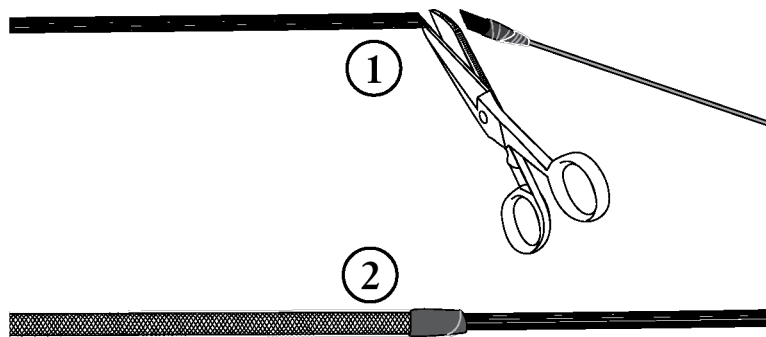

Figure 12
Step 8: Remove plastic rod (Figure 12) and reuse, if necessary.